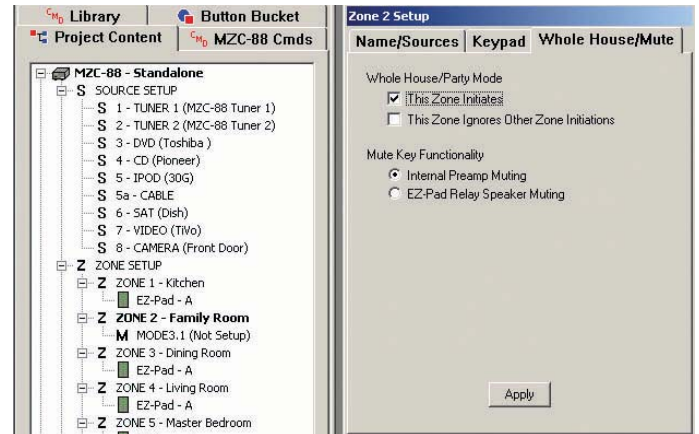

Figure 28
- Left click the **Whole House/Mute Tab** to confirm Whole House and Mute Key Functionality. These functions should have already been configured in the existing project. Under **Whole House/Party Mode**, “**This Zone Initiates**” should be checked to enable Party Mode from a press and hold of the **Click Button** when selecting a source on the MODE. “**This Zone Ignores...**” should be checked to lock out Party Mode commands from other zones. Under **Mute Key Functionality**, “**Internal Preamp Muting**” should be checked to use the MZC zone preamp muting function. “**EZ-Pad Relay Speaker Muting**” should be checked when using EPR-1.0 EZ-Pad Relay Muting Module for muting individual rooms in sub-zone expansion applications (multiple rooms in a single zone). When Zone Whole House/Mute functions are set, left click **Apply**. (Refer to **Figure 28**)